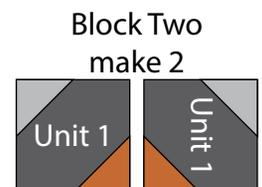

Fig. 13
6. Sew (2) Unit 1 squares together to make (1) Block Two rectangle (Fig. 13). Repeat to make a second Block Two rectangle.